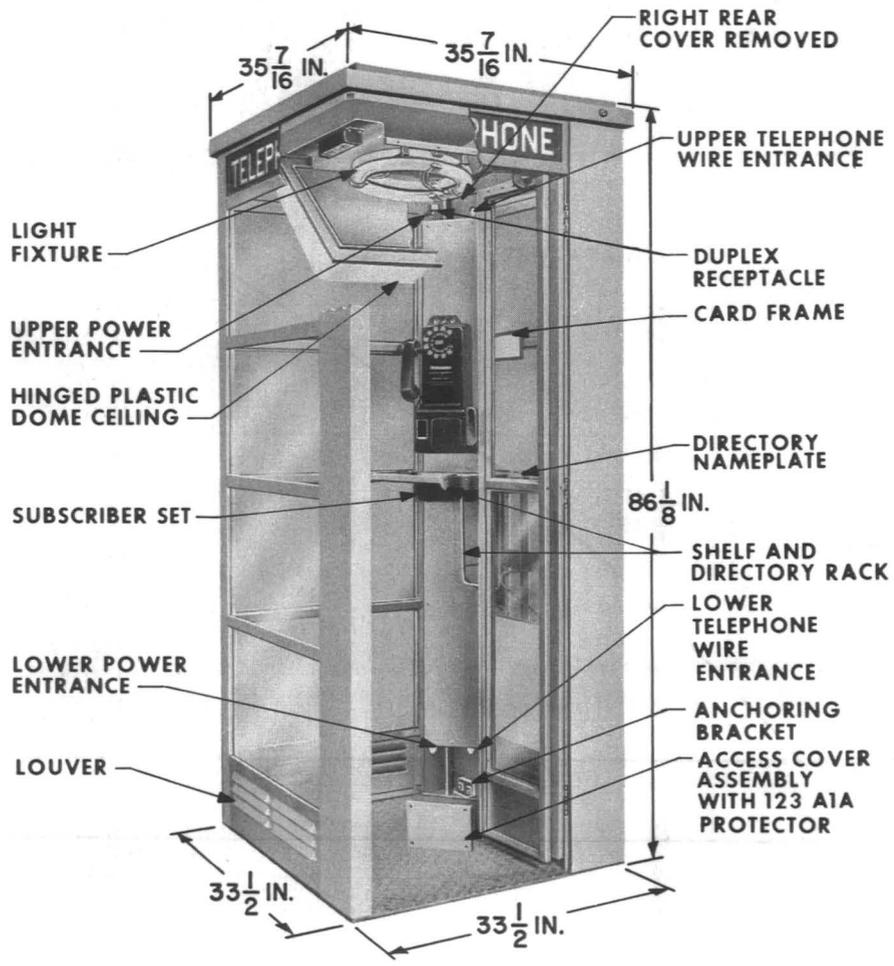

Fig. 5 — KS-14611 Booth Showing Individual Features
**3.01** Drop wire entrance holes (Fig. 5) are provided at top and bottom of the rear right column.
**5.02** Power entrance holes are located at the top and bottom of the rear right column (Fig. 5).